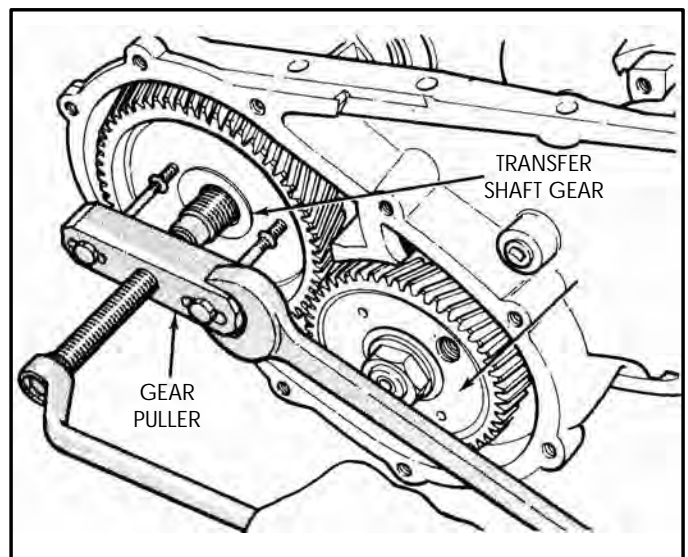

Figure 120
5. Install gear puller on the transfer shaft gear, as shown in Figure 120, and remove transfer gear using the puller (See Figure 120).